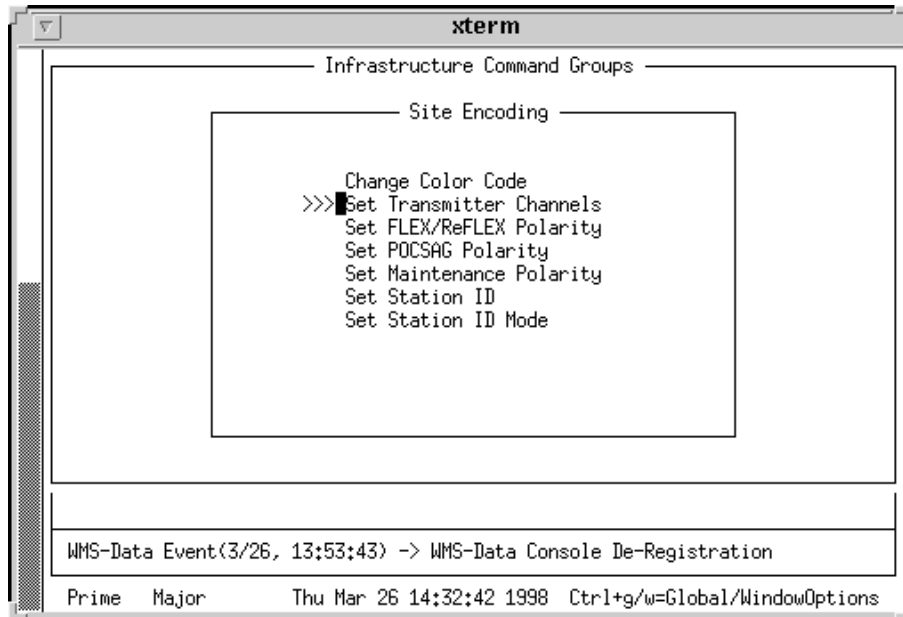

Figure 7-4: Infrastructure Command Groups—Set Transmitter Channels
1. From the Site Encoding screen, use the <tab> to position the cursor to the left of the listing Set Transmitter Channels and press: <Return> (see Figure 7-4).